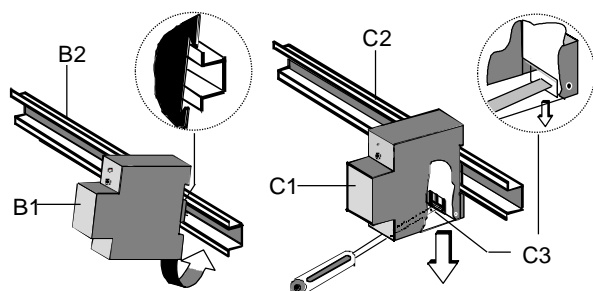

Figure 2: Mounting and dismounting a DIN-rail device
- Snap the IP Control Center N 152 (Figure 2, B1) on to the DIN rail (Figure 2, B2).
- Remove the device (Figure 2, C1) with the catcher (Figure 2, C3) from the DIN rail (Figure 2, C2)